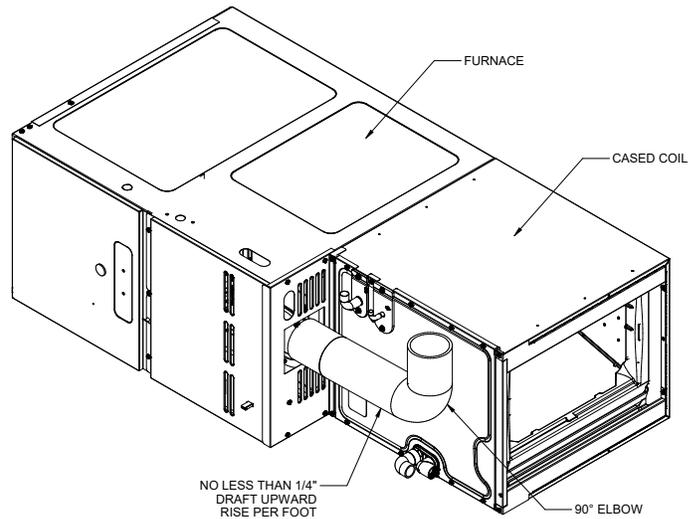

Figure 4B
5. In case of other cabinet sizes match up with 80% Furnace in Horizontal Right application, 2 qty of 90° elbow flue vent must be used. The horizontal run must be $\leq 75\%$ of the vertical rise and no less than $\frac{1}{4}$ " upward rise per foot (see Figure 4B).